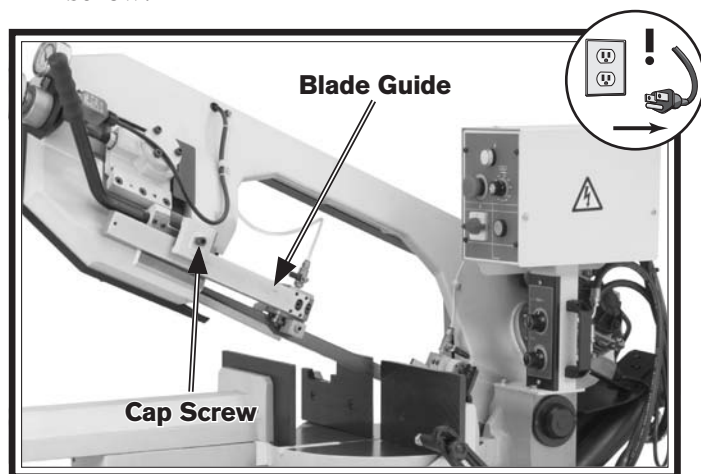

Figure 31. Blade guides.
2. Loosen the cap screw in **Figure 31** and slide the blade guide to approximately $\frac{1}{4}$ " away from the workpiece, then re-tighten the cap screw.